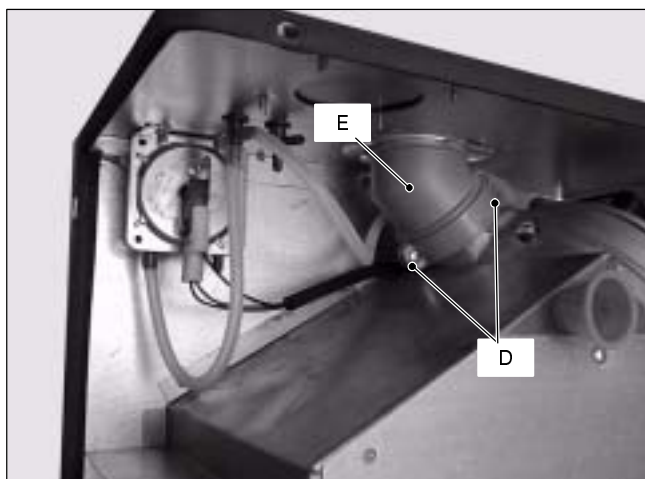

Fig. 72
- 4 Unscrew the screws *D* and remove the clamp *E* (Fig. 72).